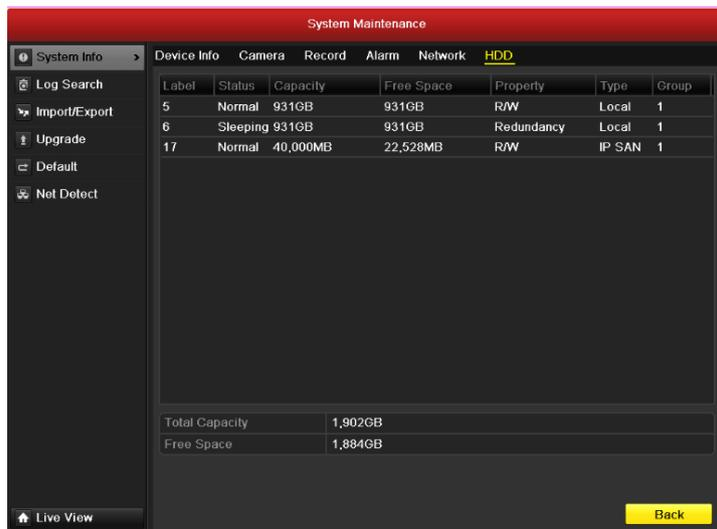

Figure 10.21 View HDD Status (2)
2. Click the **HDD** tab to view the status of each HDD displayed on the list, as shown in Figure 10.21.